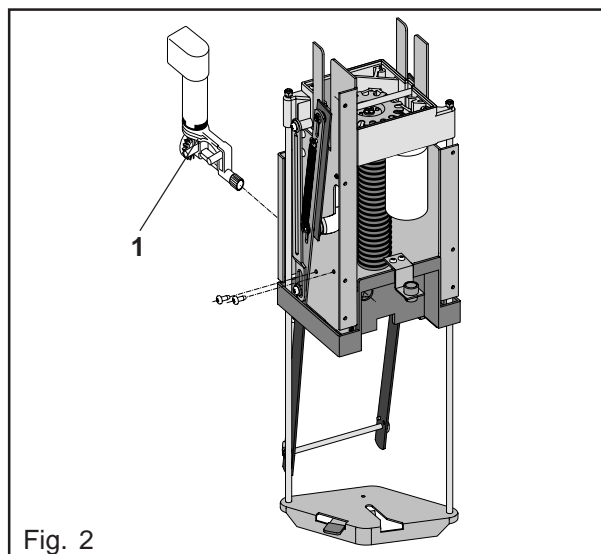

Fig. 2
- Dismount the dosing motor (1). (Fig. 2)